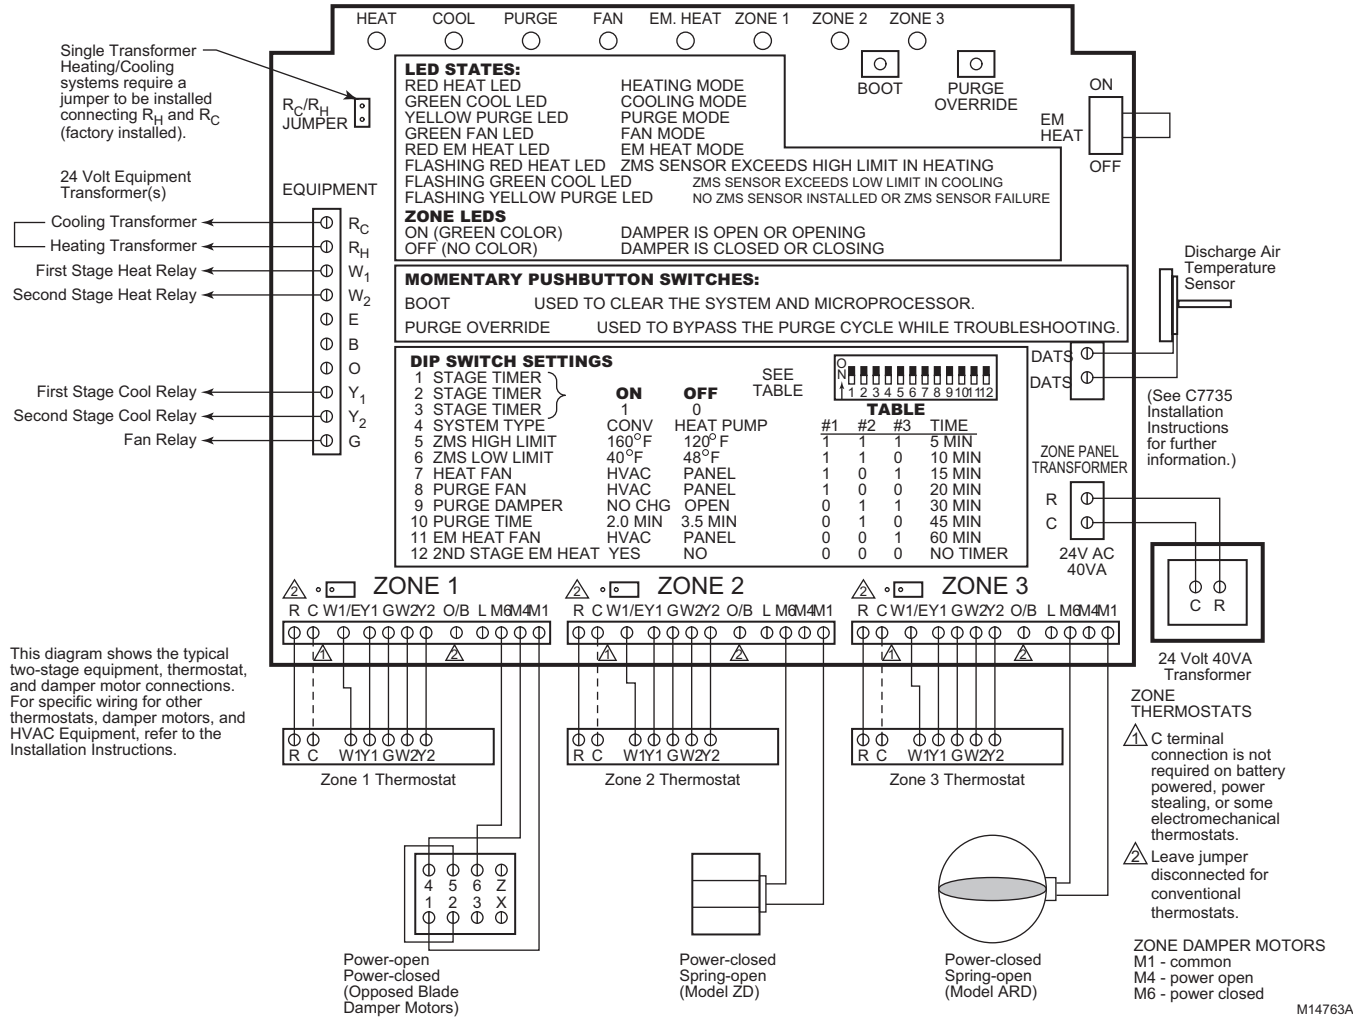

Fig. 13. EMM-3U System wiring diagram.
3. Connect C7735A1000 Discharge Air Temperature Sensor (DATS) to the DATS terminals. The wires are not polarized; see Fig. 13.
5. Connect a 40 VA, 24 Vac transformer to R (hot) and C (common). This must be a dedicated transformer. See Fig. 13.
Wire the C7735 Discharge Air Temperature Sensor (DATS) to the panel as shown in Fig. 13 -16.
Multi-Stage: Wire the equipment as shown in Fig. 13 using the W2 for second stage heating, and the Y2 for second stage cooling.
Wire a dedicated transformer to the R (hot) and C (common) terminals on the zone control panel as shown in Fig.13. One 40 VA, 24 Vac transformer powers up to five ARD or ZD Dampers and the panel.
This panel has one bank of 12 DIP switches numbered starting with 1 on the left. The switches are shipped in the On (Up) position. See Fig. 13 and Tables 4 and 5.